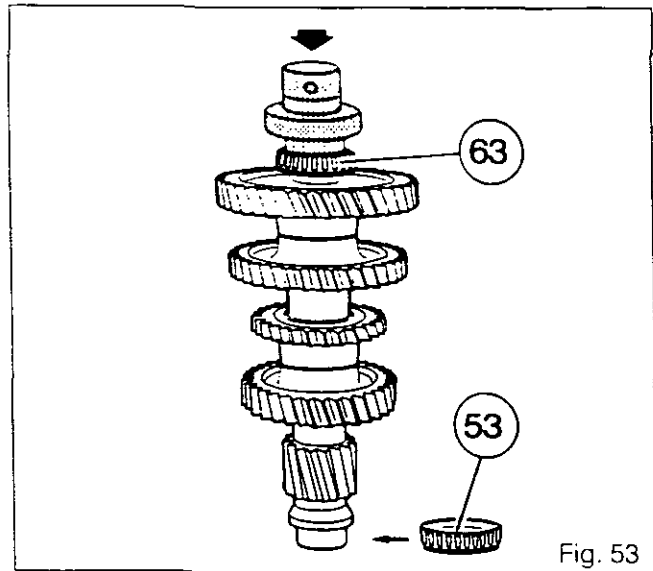

Fig. 53
184. Using a press, fit the bearing cones (63) and (53) holding the assembly in a suitable jig (Fig.53).